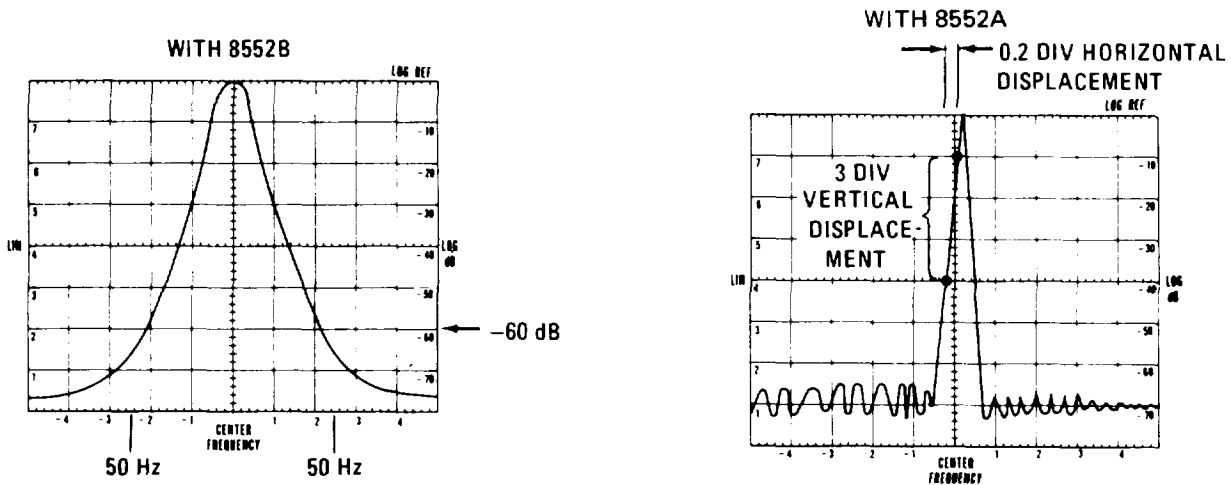

Figure 4-10. Residual FM Display
5. All sidebands 2.5 divisions (50 Hz) from CENTER FREQUENCY graticule should be below -60 dB graticule line (see Figure 4-10):
7. Using LINEAR SENSITIVITY vernier, set signal peak to top horizontal graticule line (see Figure 4-10). Then FINE TUNE so that upward slope of signal intersects CENTER FREQUENCY graticule line 1 division from the top. Note where upward slope of signal intersects middle (4) horizontal graticule line.